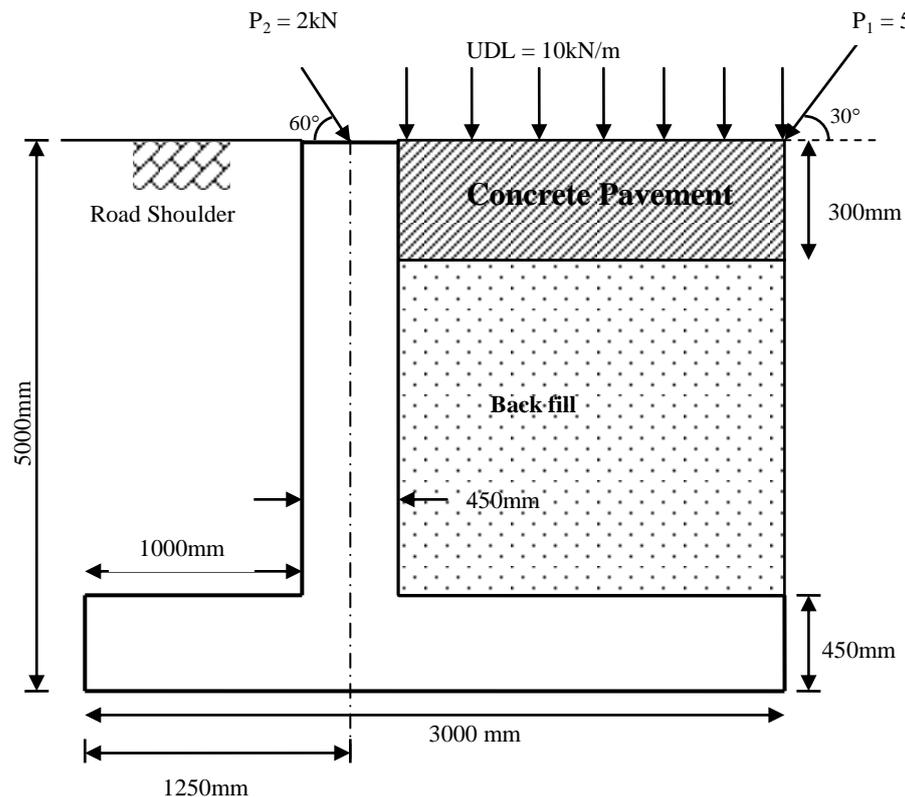

Figure 2.0
2. (a) Write the **SIX (6)** compatibility equations of deformed body or structure. Assume the deformation is small. (6 marks)
3. (a) Prepare the following basic data (i – iv) to design a cantilever retaining wall to support a road shoulder as shown in the Figure 2.0. The top surface of the concrete pavement is subjected to uniformly distributed load of 10kN/m and two point load P1 and P2 = 5kN. Assume the retaining wall is backfilled with granular material having a unit weight of 20 kN/m³ and an internal angle of friction of 30. The bearing capacity from soil investigation is 200 kN/m², the coefficient of friction is 0.5 and the unit weight of concrete pavement is 24 kN/m³. Determine :